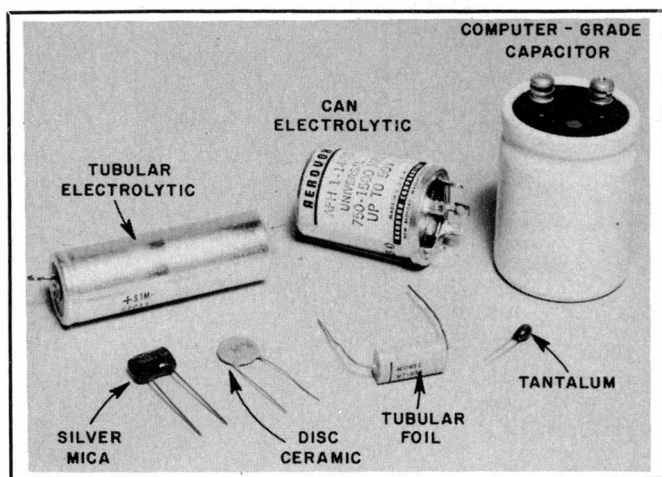
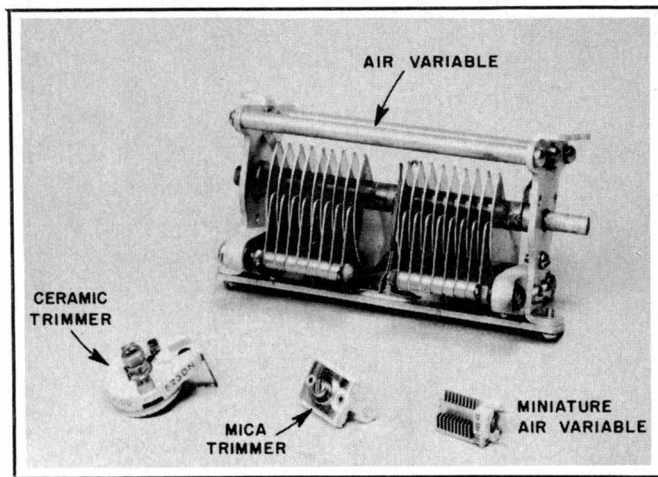

Fig. 2 — Various fixed-value capacitors are seen in this photograph.
Fig. 3 — Examples of variable capacitors.
Fig. 2 shows a collection of fixed-value capacitors. Variable capacitors appear in Fig. 3. To summarize this section of our lesson, we should remember that the farad (F) is the basic unit of capacitance. The  $\mu\text{F}$  is  $10^{-6}\text{F}$ ; the nanofarad is  $10^{-9}\text{F}$ ; the picofarad is  $10^{-12}\text{F}$ . Learning these relationships will help us to perform pertinent mathematical exercises when we become proficient enough to start designing our own circuits.